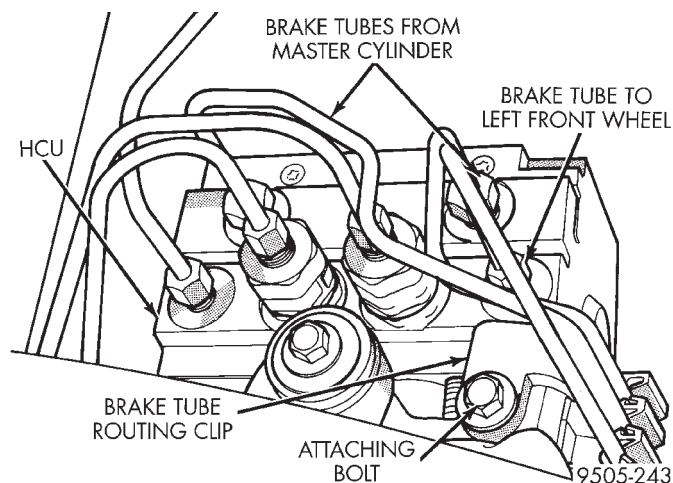

Fig. 19 Brake Tubes At HCU
(10) Remove the brake tube routing clip (Fig. 19) from the HCU mounting bracket. Then remove the 2 brake tubes coming from master cylinder and the brake tube going to the left front wheel (Fig. 19) from the HCU ports.
(6) Install the 2 brake tubes coming from master cylinder and the brake tube to the left front wheel (Fig. 19) in the HCU ports. Tighten the 3 brake tube nuts to a torque of 20 N·m (180 in. lbs.). Install the brake tube routing clip (Fig. 19) on the HCU mounting bracket and securely tighten attaching bolt.